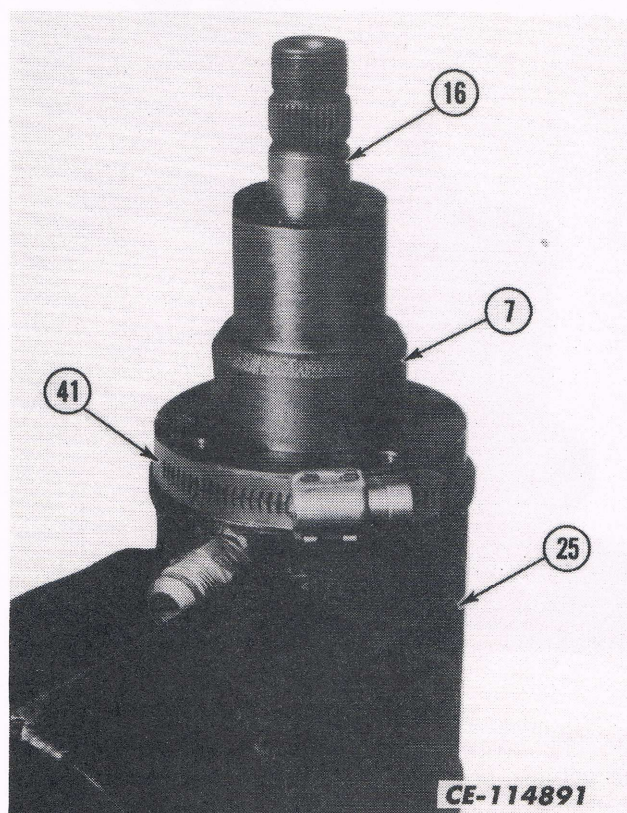

Fig. 18
Replace the four screws (6) finger tight and then tighten a pilot ring or a worm drive type hose clamp (41) around the upper cover flange and the body pilot diameter to achieve the required alignment. Now tighten the screws to 24-30 N·m (18-22 ft-lbs) torque. See Fig. 18.